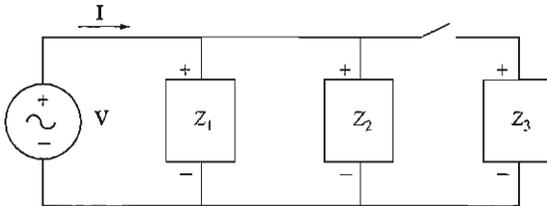

FIGURE P1-14
- 1-19. Figure P1-14 shows a simple single-phase ac power system with three loads. The voltage source is $\mathbf{V} = 240\angle 0^\circ$ V, and the impedances of these three loads are